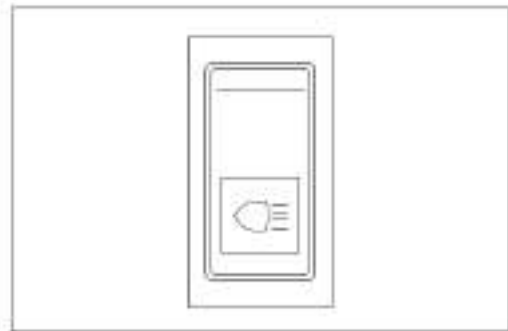

Figure 4-17 Indicator switch
f) Press the light switch as shown in Figure 4-17 to check whether the headlamps are illuminated. If the headlamps don’t light up, the bulbs may have burnt out or may be open-circuited, so please contact Zoomlion or Zoomlion dealer for repair.